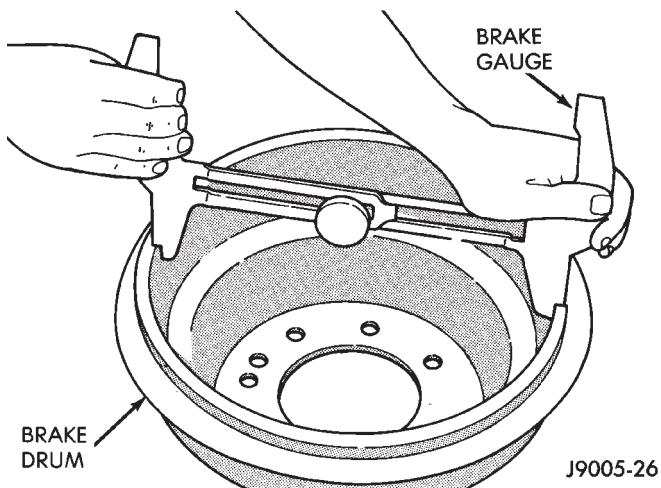
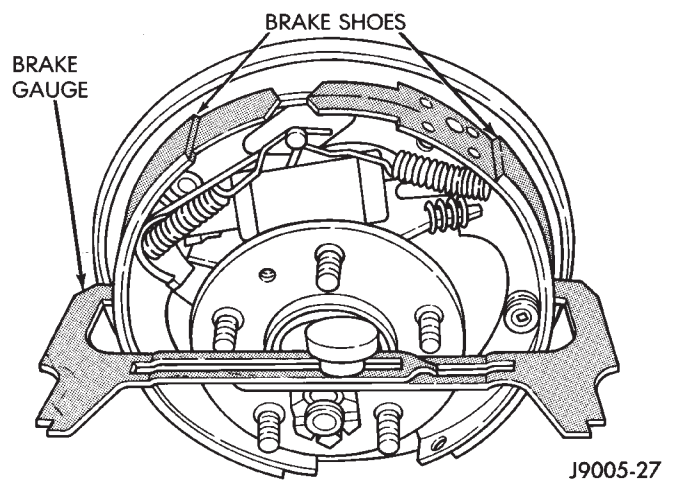

Fig. 6 Adjusting Gauge To Brake Drum
Fig. 7 Adjusting Brakeshoes To Gauge
(2) Verify that left/right automatic adjuster lever and cable are properly connected.
(3) Insert brake gauge in drum. Expand gauge until gauge inner legs contact drum braking surface. Then lock gauge in position (Fig. 6).
(4) Reverse gauge and install it on brakeshoes (Fig. 6). Position gauge legs at shoe centers as shown. If gauge does not fit (too loose or tight), adjust shoes.
(5) Pull shoe adjuster star wheel away from adjuster lever.
(6) Turn adjuster star wheel (by hand) to expand or retract brakeshoes. Continue adjustment until gauge outside legs are light drag-fit on shoes (Fig. 7).
(7) Repeat adjustment at opposite brakeshoe assembly.
(8) Install brake drums and wheels and lower vehicle.
(9) Make final adjustment as follows: